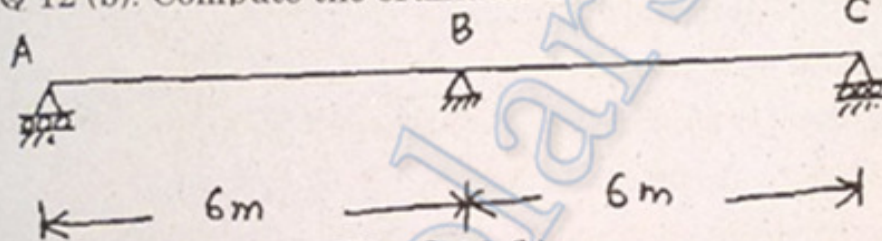

Fig. Q 12 (b)
- (b) Determine the influence line for R_A , for the continuous beam shown in Fig. Q 12 (b). Compute the ordinates at every 1 m interval.